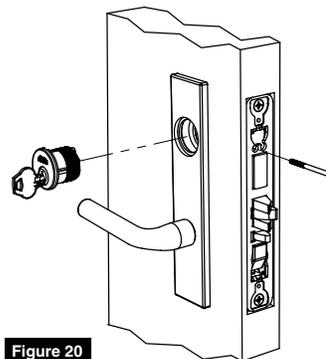

Figure 20
6. Install cylinder. Secure with cylinder set screw. (Figure 20)